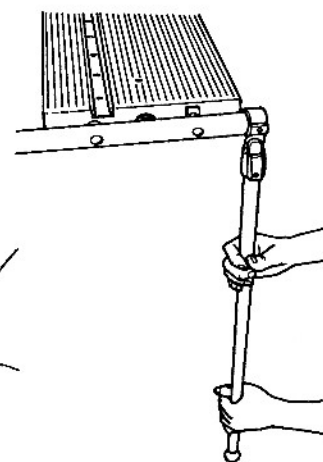

Fig. A-28
33. Adjust the telescoping leg, as in Fig. A-28.